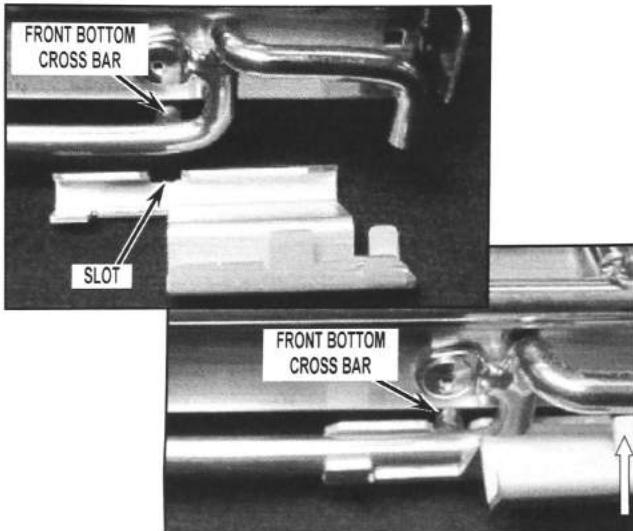

FIGURE 12
- Turn the rack over to normal orientation. Slide front bracket up from the bottom. Ensure that the slot engages the front bottom cross bar of the rack. See *Figure 12*.